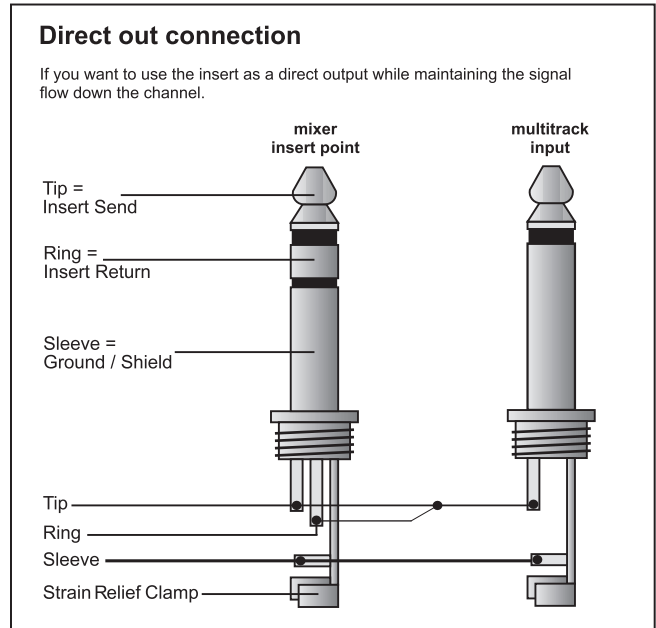

Fig. 7.5: Direct out connection
- ◆ Insert points may also be used as pre-EQ direct outputs without interrupting the signal flow. See fig. 7.5 “Direct out connection”.